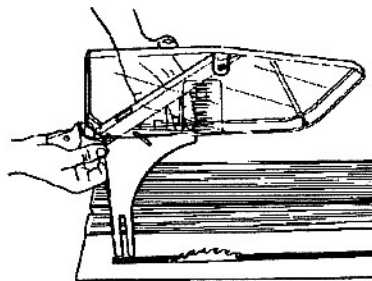

Fig. B-8
6. Install the table insert (the end marked "front" goes toward the infeed side of the table). With the carriage all the way to the back of the machine and unlocked, raise the blade about 1" above the table surface. Insert the upper saw guard's riving knife between the plate clamp and lower saw guard, as demonstrated in Fig. B-8. Raise the anti-kickback cams to their highest setting.